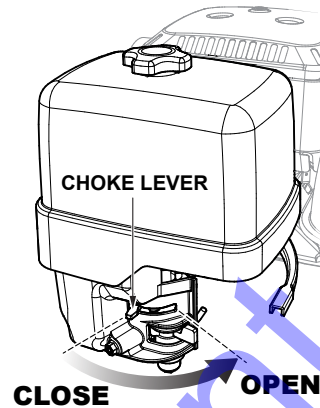

Figure 18. Choke Lever (Open)
8. If the choke lever was moved to the "CLOSED" position to start the engine, gradually move it to the "OPEN" position (Figure 18) as the engine warms up. If the engine has not started repeat steps 1 through 6.